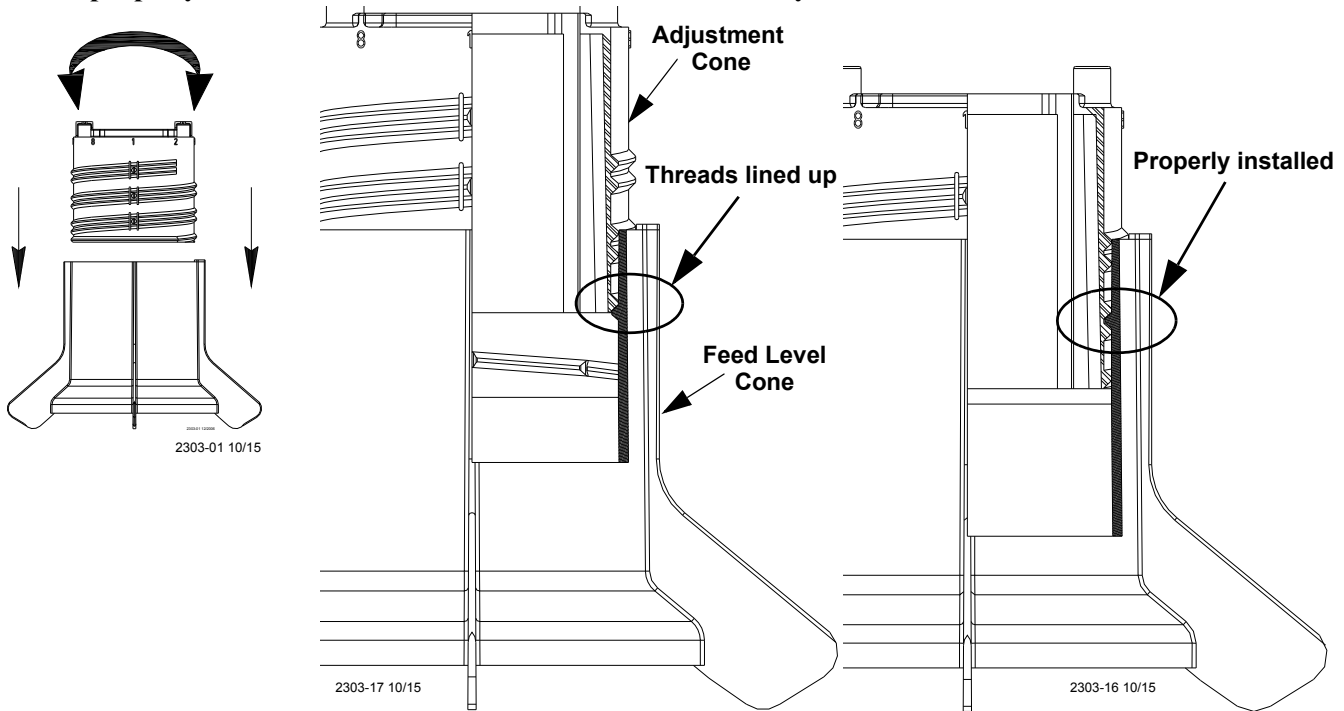

Figure 17. Cone Assembly
5. Assemble the feed level cone and adjustment cone as shown, See Figure 17.
- Screw the (2) two parts together and adjust to feed level #3.